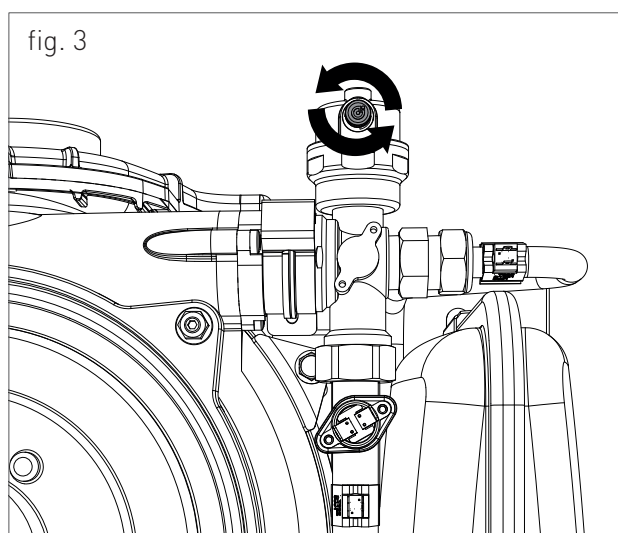

fig. 3
2. slightly loosen the cap of the air vent valve placed on top of the condensing exchanger (fig. 3) to release the air from the top of the system;
7. open the air relief valves of the radiators and check the air removal process. When the water starts to leak close the radiators air relief valves **AND THE AIR VENT VALVE POSITIONED ON THE TOP OF THE CONDENSING EXCHANGER(FIG. 3).**